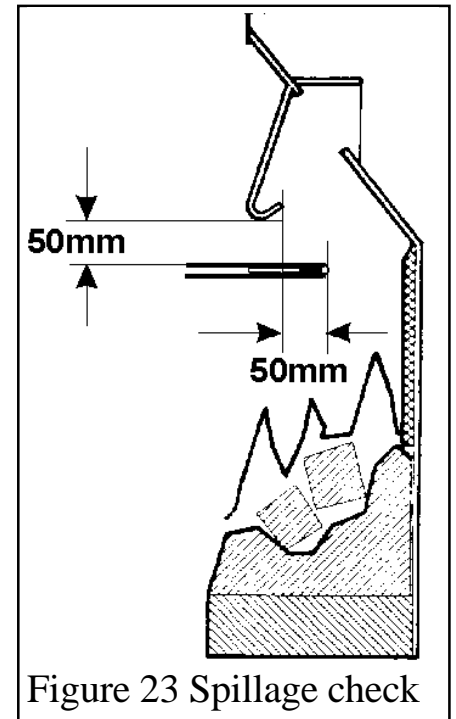

Figure 23 Spillage check
8.2.4 Fit a smoke match into a tube, light it and insert it into the appliance canopy at the position shown in Fig.23.